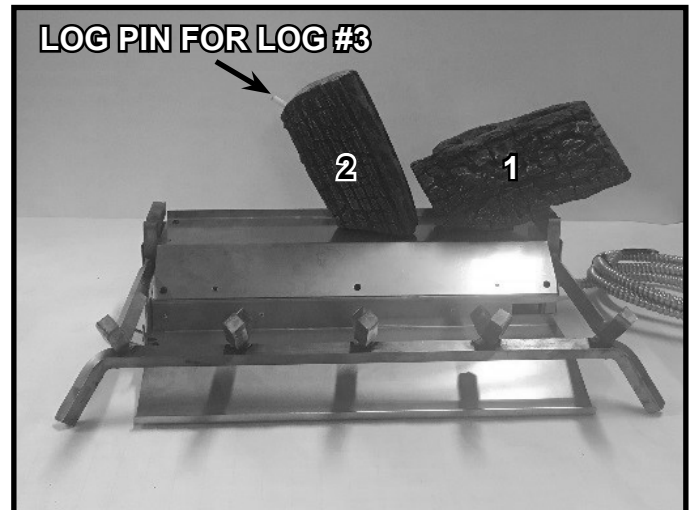
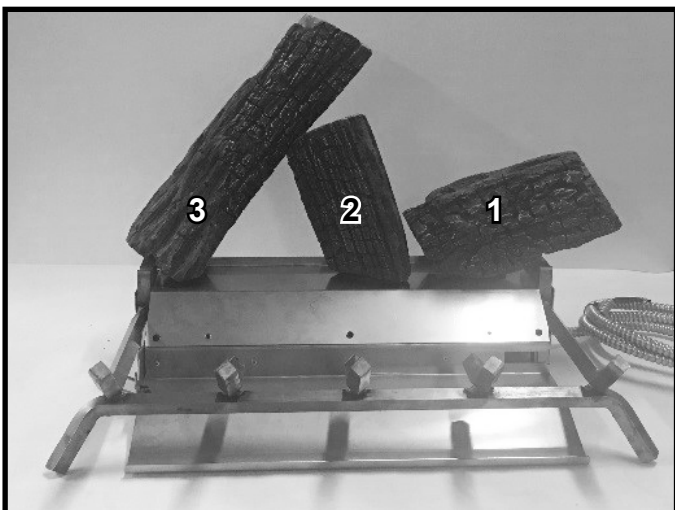

Figure 3. Install Log #2
Figure 4. Install Log #3
3. Install log #2 on the middle pin with the log angled to the left. See Figure 3.
4. Install Log #3 by engaging the hole on the bottom of the log with the log pin on the top of Log #2, shown in Figure 3. Place the other end of Log #3 on the left grate on top of the rear cover as shown in Figure 4.